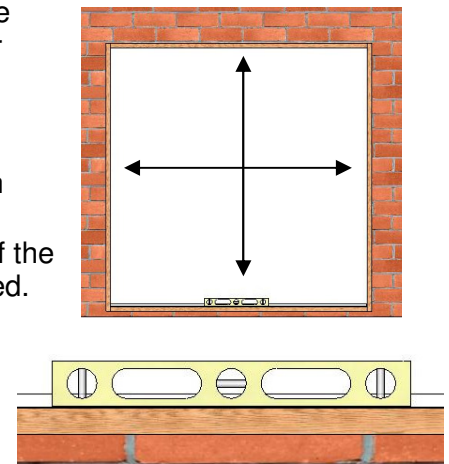

Figure 1:
- Place the Arche-Duct drain system into the opening and determine any leveling that must be done prior to installation (Figure 1). Prepare relief areas for the PVC drain flange(s).